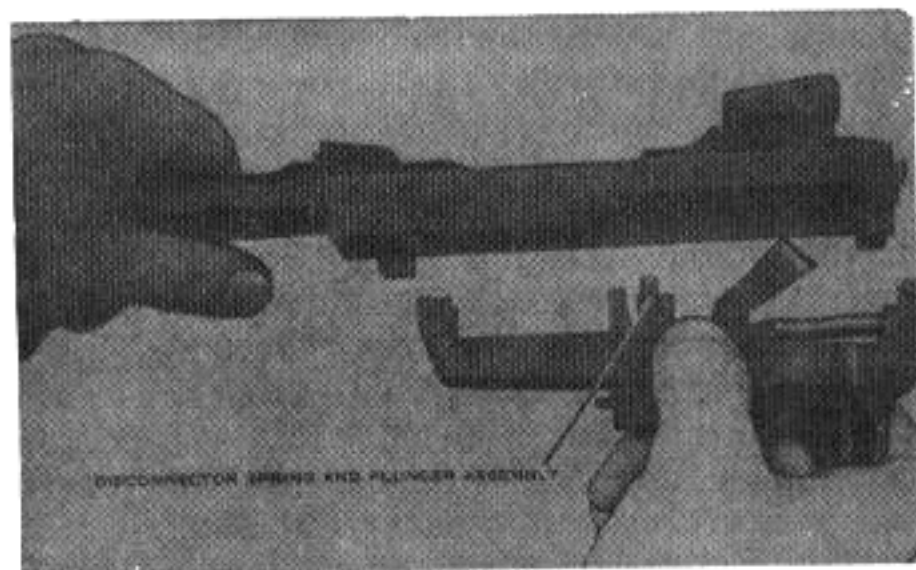

Figure 11. Removing the trigger housing group.
*i.* Hold the barrel and receiver in the left hand with the muzzle to the left, sights up. Remove the trigger housing group to the rear (Fig. 11). Be careful not to lose the disconnecter spring and plunger assembly.